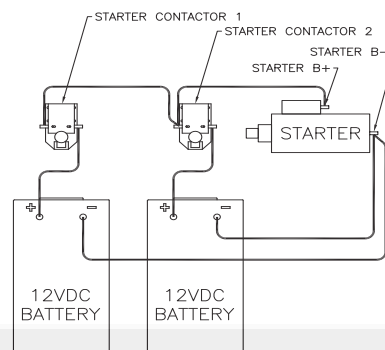
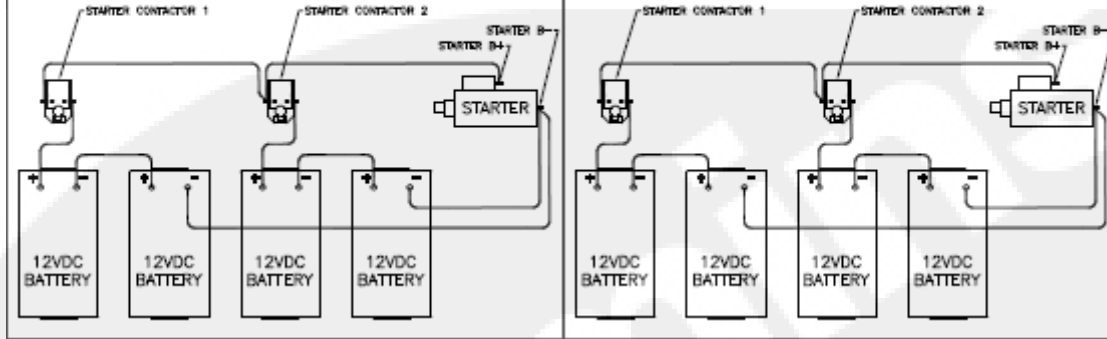

Figure 3-3 Series Battery Connection 12 VDC
Figure 3-4 Series Battery Connection 24 VDC
1. As shown in Figure 3-3 or Figure 3-4, install the Battery Cable Kit or equivalent customer-supplied wiring. Install battery sets in a well-ventilated or otherwise protected location.